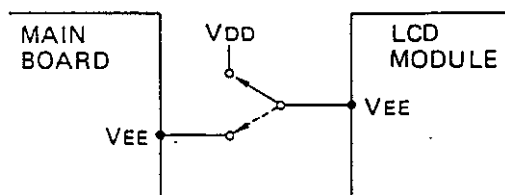

Fig. 12-6
2. Keep V_{EE} terminal connected to V_{DD} as shown in Fig.12-6.